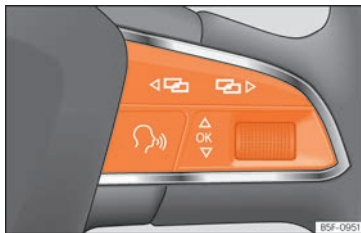

Fig. 81 Multifunction steering wheel: buttons for using the instrument panel menus.
hidden with the button **OK** of the multifunction steering wheel »» Fig. 81.
- If a message or vehicle symbol is displayed, press the button **OK** »» Fig. 81; if necessary, several times.
- Use the **<** or **>** »» Fig. 81 to switch between menus.
- To open the menu or the information displayed, press the button **OK** »» Fig. 81 or wait a few seconds until the menu or the information display opens automatically.
- In the menu displayed, turn the right thumb-wheel of the multifunction steering wheel »» Fig. 81 until the desired option of the menu is highlighted. The option appears framed.
- Press the button **OK** »» Fig. 81 to make the required modifications. A mark indicates that the system or function is activated.
Press the **<** or **>** »» Fig. 81 button.